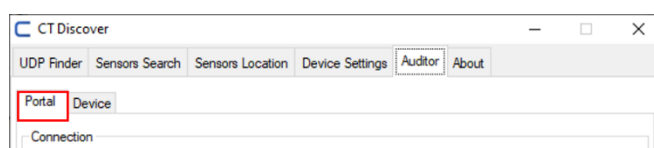

Figure 29 – Portal Option
2. To validate the Senslive select the option “Portal” (Figure 29).